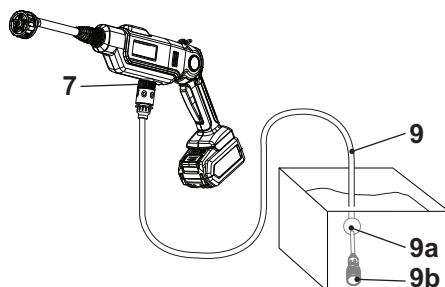

Fig. 7
1. Attach one end of the water hose (9) onto the water inlet adaptor (7) and then keep the other end with the floating ball (9a) in the water source (Fig. 7).